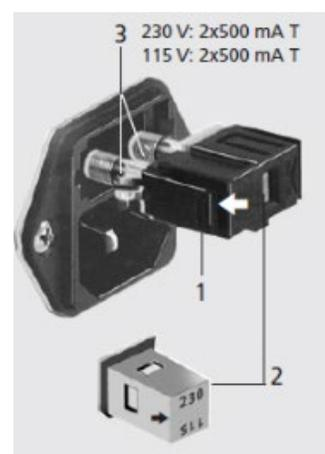

Figure 3.2.
3. Take out the voltage selector plate (Figure 3.2). Turn it and reinsert it into the fuse holder so that the required voltage rating is facing the window of the fuse holder.